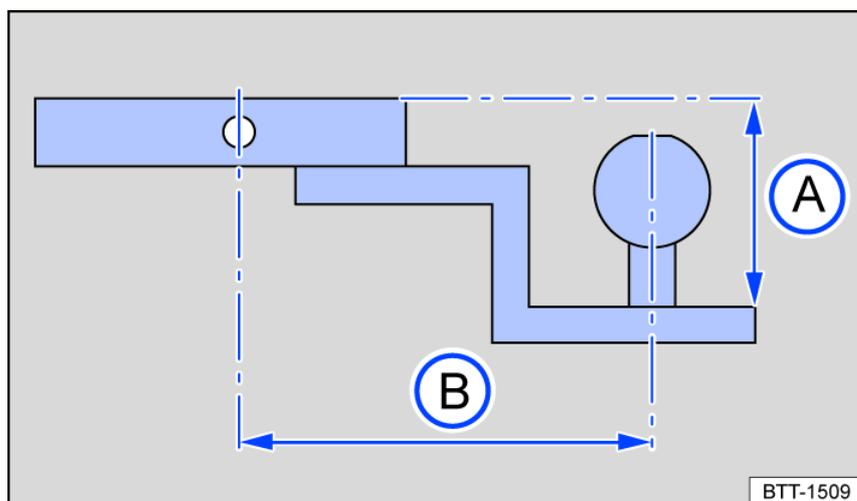

Fig. 171 Dimensions of the ball mount holder and receptacle.
The mount requires a special shape and size of ball mount holder and ball mount. This affects both the suspended height of the ball coupling fig. 171 Ⓐ and the distance between the socket pin and the ball coupling fig. 171 Ⓑ.
- The suspended height fig. 171 Ⓐ from the top of the ball mount to the top of the neck must be at least 25.4 mm (1 inch) and must not exceed 73 mm (2 7/8 inches).
- The distance between the socket pin and the ball mount fig. 171 Ⓑ must not exceed 178 mm (7 inches) from the middle of the ball mount to the middle of the eye of the pin.